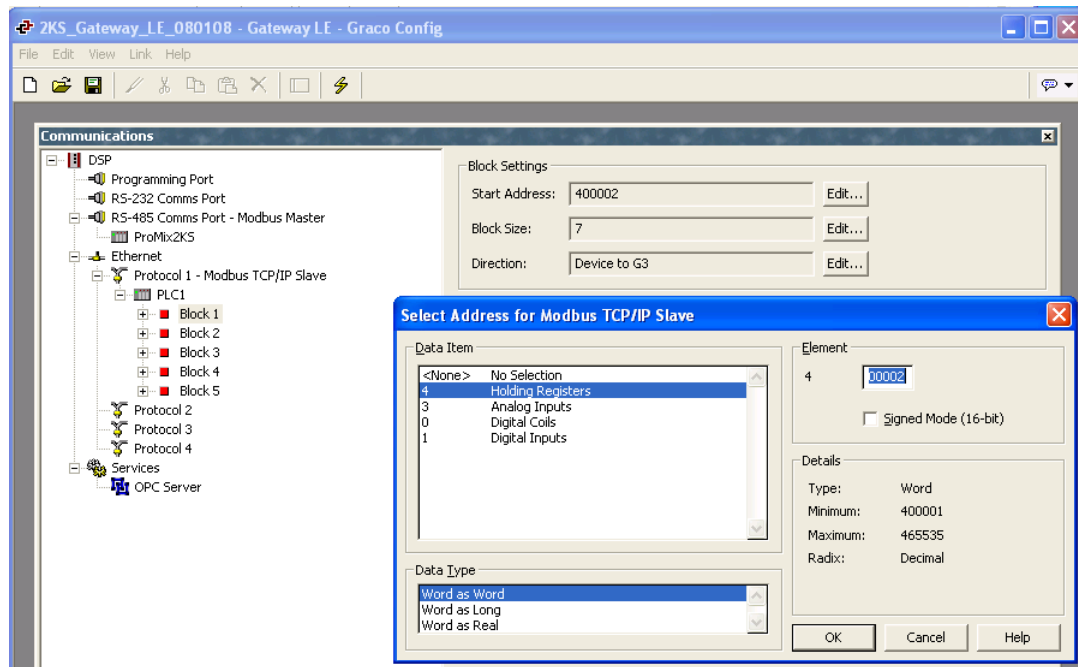

FIG. 23: Mapping Gateway Blocks
1. See FIG. 23. Select the block for data mapping. Click the Edit button next to the Start Address field on the right side of the window. The Select Address window will open.